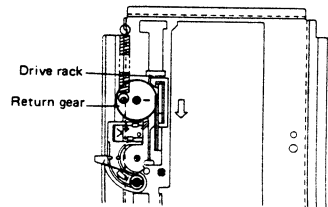

Fig. 12
*When fitting the close switch and return gear again, push the drive rack in the direction of the arrow and set them so that the return gear spring is set on the left side. [See Fig. 12.] (The — marked gear of return gear is engaged between the 2nd and 3rd from top of the drive rack gears.)